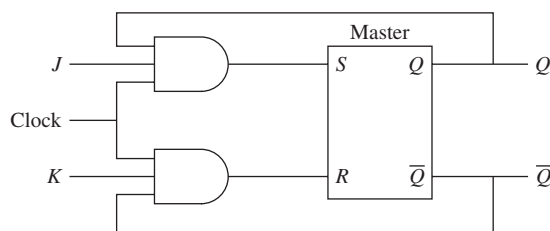

FIGURE P10.59 JK flip-flop for Problem 10.59.
10.59 (B) For the JK flip-flop shown in Figure P10.59, the current values of J and K are $J = 0$, $K = 0$, and $Q = 0$. What is the value of Q when C changes to 1, and K changes to 0 at the arrival of another clock full cycle?
10.72 (H) For the JK flip-flop shown in Figure P10.59, the current values of J and K are $J = 0$, $K = 0$, and $Q = 0$. Use PSpice to set up the digital logic circuit. The JK flip-flop circuit can be obtained from part “JKFF” in the DIG_PRIM library. Solution